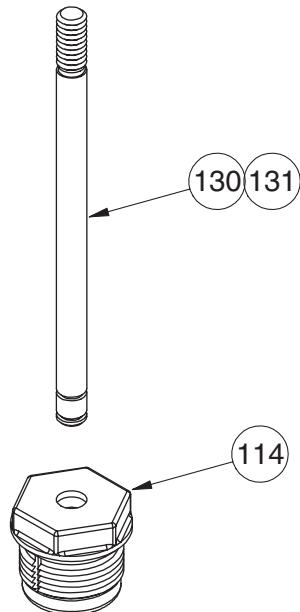

Figure F-1
- 1. Place a drop of Shock Fluid (132) on the grooved end of each Shock Shaft [front (130), rear (131)]. Then slide a Shock Shaft through the hex shaped end of the Shock Cartridge (114). Slide the Shock Shaft through until it is approximately midway between the threads and grooves, as shown in Figure F-1.